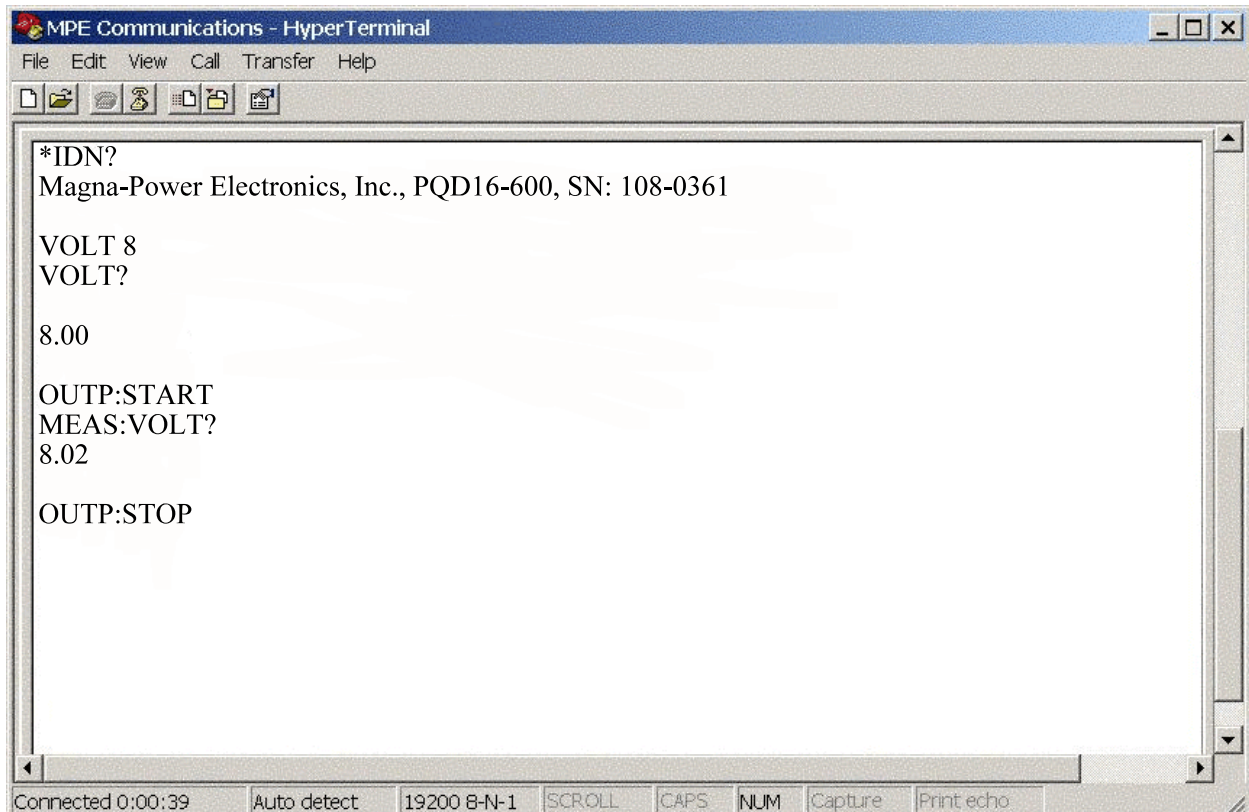

Figure 4.1 RS-232 Communications using Microsoft Windows (tm) HyperTerminal
7. As illustrated in figure 4.1, the returned data will display the following: “Magna-Power Electronics, Inc., PQD16-600, SN: 108-0361” where the model and serial number may be different depending on the unit being tested.